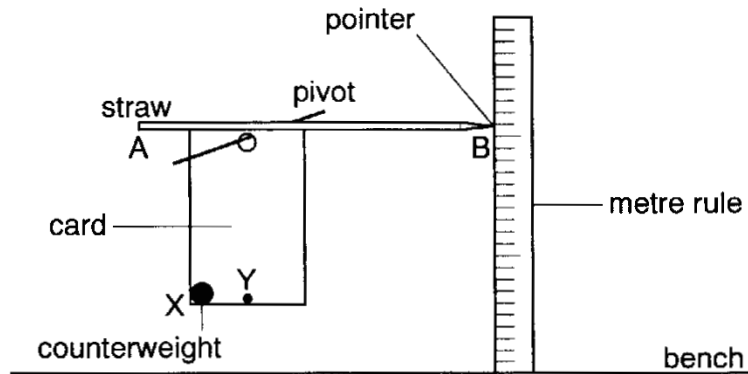

Fig. 5
The lever balance shown in Fig. 5 was constructed from a straw AB fitted with a pointer at one end and a piece of card. The balance was supported on a pivot and the straw set horizontal by adjusting the position of a small counterweight. The height of the pointer was measured by using a metre rule placed beside the apparatus.
- (a) Describe how you would check that the metre rule was perpendicular to the bench. You may draw on Fig. 5 .
- (c) With the straw horizontal, as shown in Fig. 5, a small paper clip was attached to the end A of the straw. The balance came to rest as shown in Fig. 6. Write down the reading shown for the height of the pointer B.